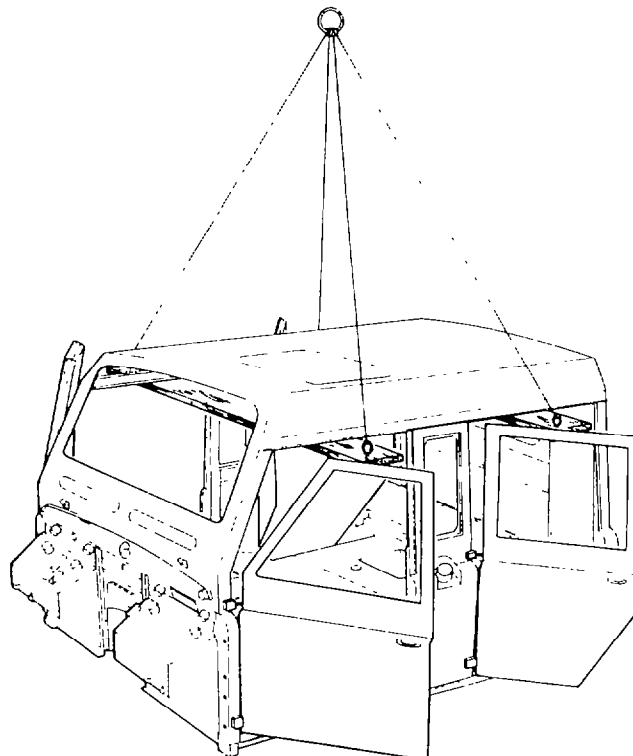

Figure 14 — Cab Removal
- t. Connect suitable lifting slings to the cab and attach the ends of the slings to suitable overhead lifting equipment and take-up the slack (see Fig. 14).